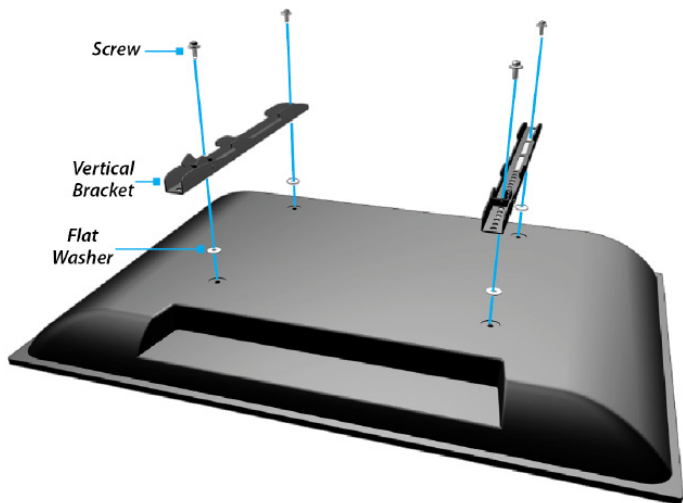

Figure 7
4. Place the **Vertical Brackets** (x 2) over the **Flat Washers** parallel to one another. The **Hooks** on the **Vertical Brackets** must be pointing towards the **Bottom** of the **TV**. (Figure 7)
5. Insert the appropriately sized **M-Type Screws** (x 4) (e.g., M4 x 12 mm Screws) through the **Vertical Brackets**, the **Flat Washers**, and the **VESA Mounting Holes** at the back of the **TV**. (Figure 7)